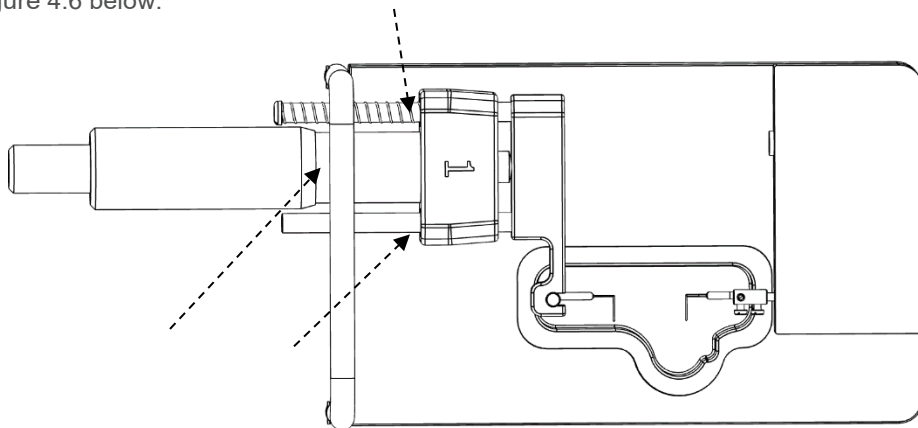

Figure 4.6 The areas where linear slide grease may be applied for smooth micropositioner movement
The myograph force transducer is a strain gauge connected to a Wheatstone bridge. The force transducers for each chamber are housed in a separate, protective compartment (see figure 4.3 below). While the protective cover offers some mechanical protection for the force transducers, they are still very vulnerable to applied forces exceeding 1 Newton (100 grams) or fluid running into the transducer compartment due to insufficient greasing of the transducer pinhole (see “Figure 4.6 Close-up of transducer pin from outside”).
7. Tighten the screws and place some vacuum grease from the outside around the transducer pin that protrudes from the transducer housing. Make sure that the hole is completely sealed to prevent buffer solution or water from entering the transducer housing and damaging the new force transducer. Arrow in figure 4.6 indicate the place that the grease needs to be applied.
*Figure 4.6 Close-up of transducer pin from outside. The arrow indicates the place that the grease needs to be applied to prevent water and buffer leaking into the transducer housing and damaging the transducer.*
Check the micropositioner for grease at least once a month. There are 3 main parts that will need to be greased on the micropositioner, those parts being the micropositioner screw thread and the 2 slide bars to the left and right of the micropositioner screw thread. In case of insufficient lubrication, grease the micropositioner with the “Grease for Linear Slides” included with your system. Apply the linear slide grease in the areas indicated by the arrows in figure 4.6 below.